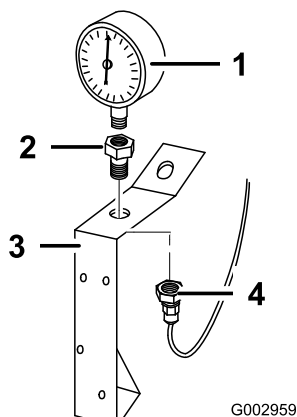

Figure 42
1. Using a wrench, hold the reducer at the tee bracket and loosen the existing pressure gauge. Remove the gauge (Figure 42).